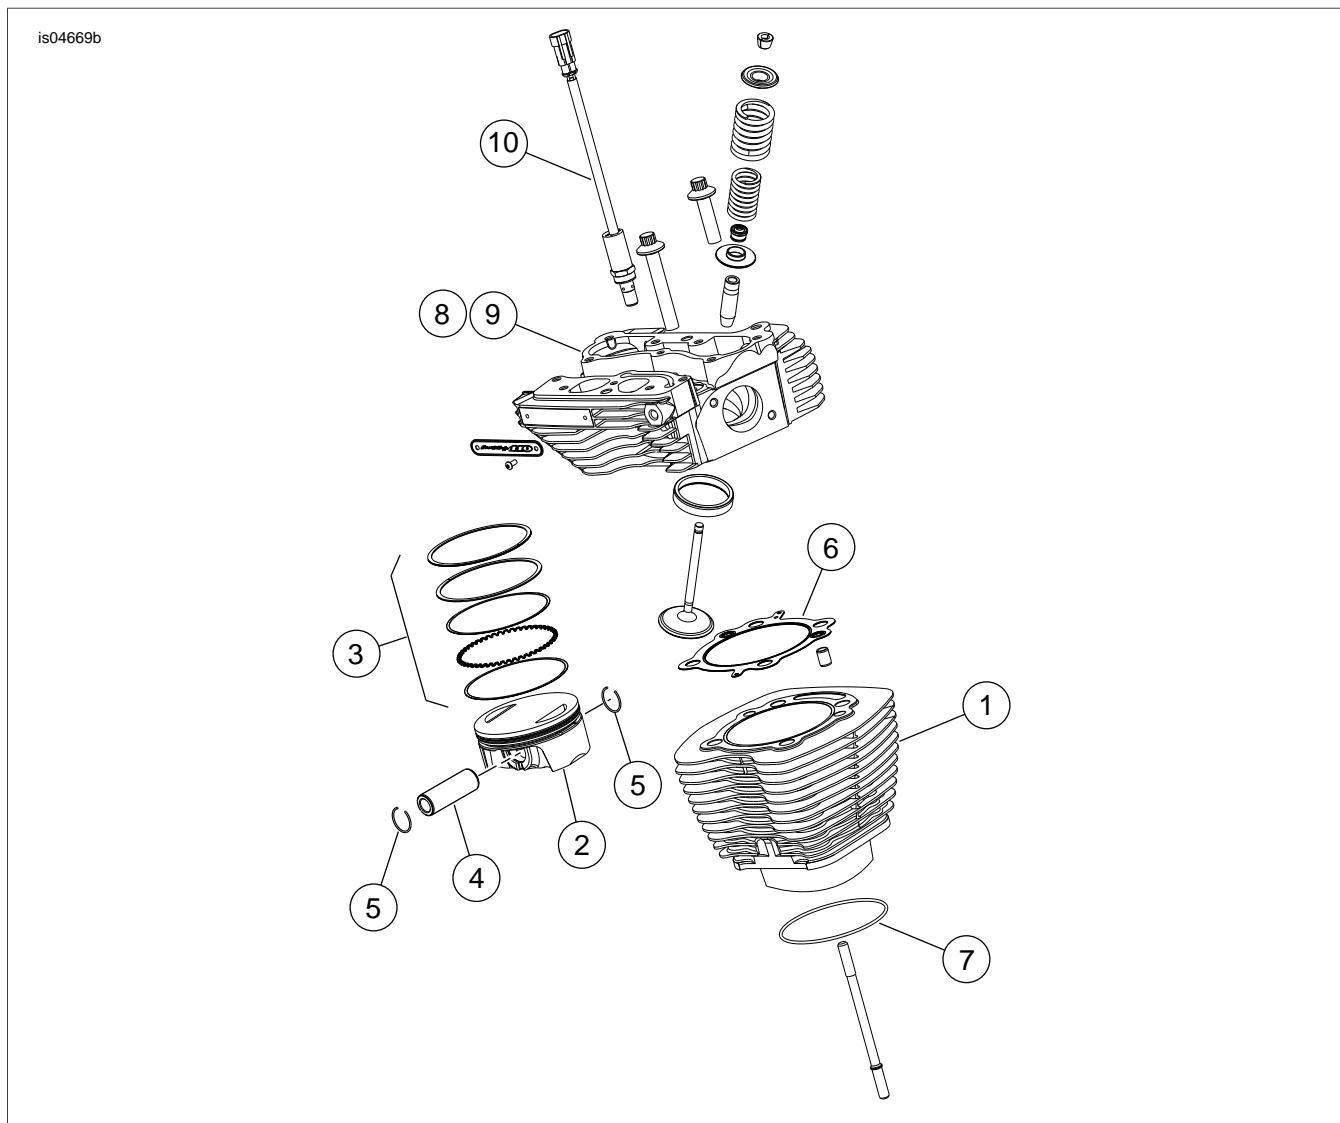
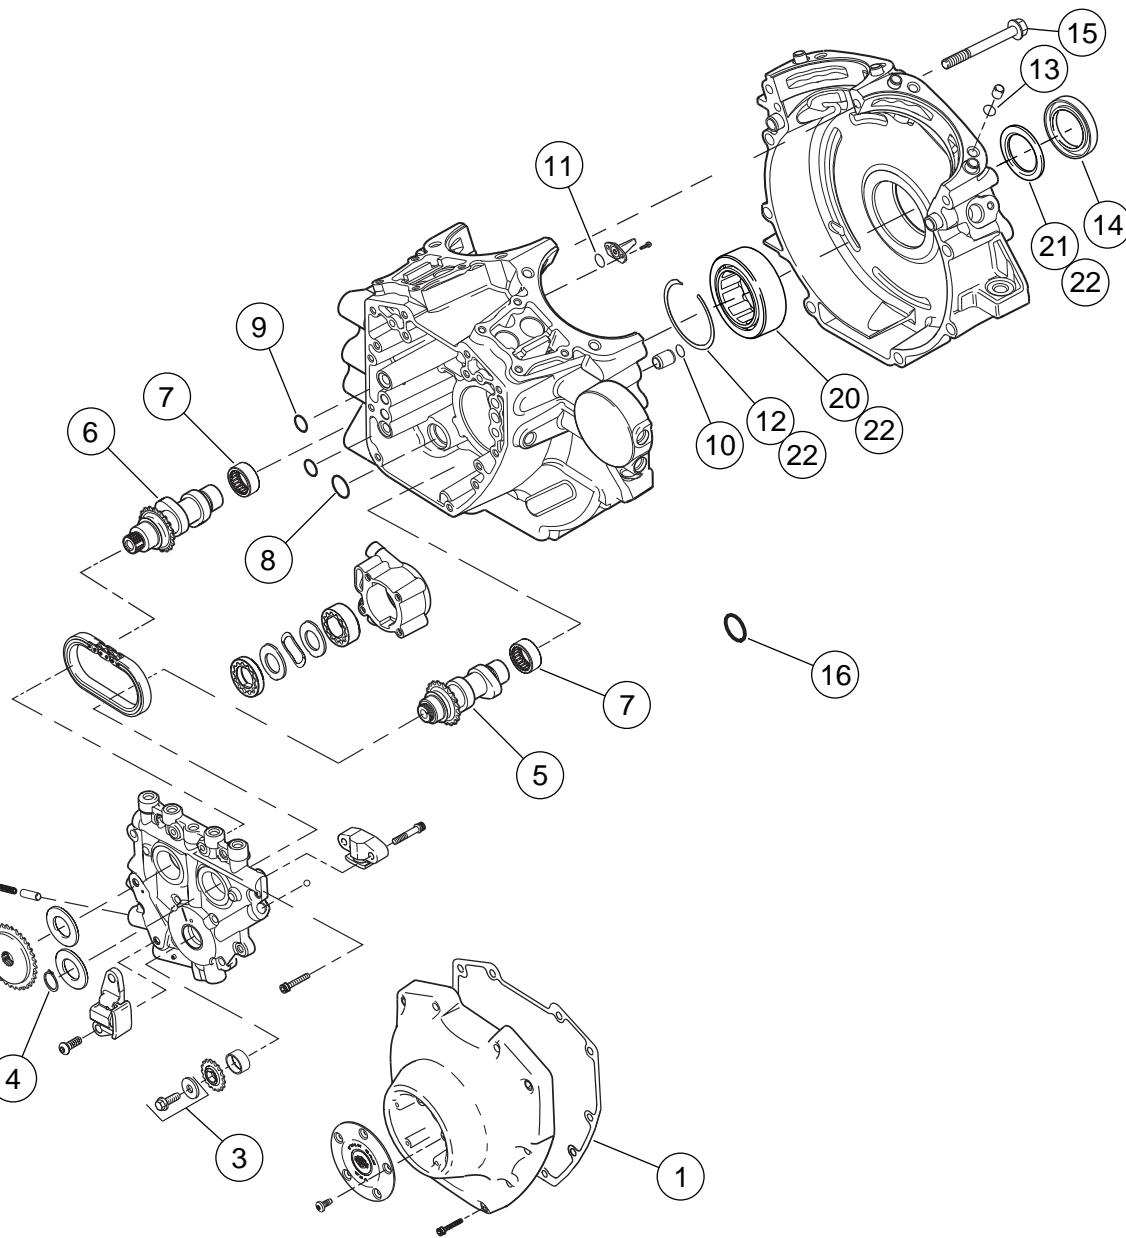

Figure 4. Service Parts: Screamin' Eagle Twin Cam 110 (1800 cc) Conversion Kit
Figure 6. Service Parts: Screamin' Eagle Pro Twin Cam 110 (1800 cc) Conversion Kit
See Figure 4 to Figure 7 and Table 2 to Table 5.
4. See Figure 6. Reassemble engine case with original screws, except the top center screw between the cylinders, and tighten to specifications listed in service manual.
- See Figure 6. Install the top center engine crankcase screw (15) supplied in kit but do not tighten.
- See Figure 6. Inspect camshaft needle bearings (7) and replace if necessary.
- See Figure 4 through Figure 6. Assemble engine top end and bottom end using parts from kit. Refer to appropriate sections in service manual.
- See Figure 4. Install Air Cleaner Kit (29592-05) according to the instructions in the Instruction Sheet.